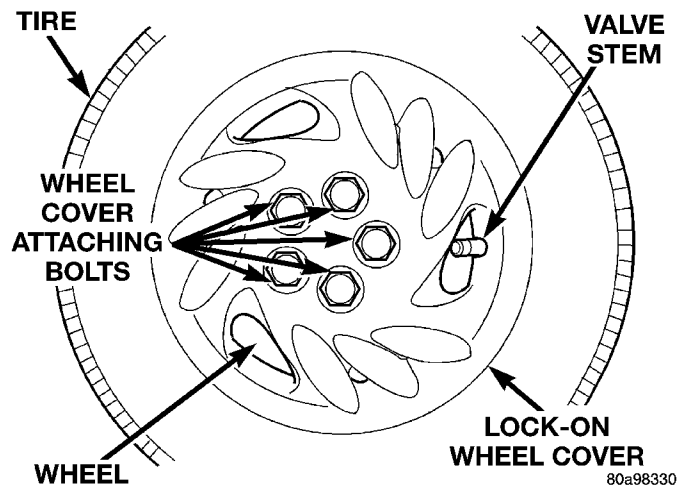

Fig. 12 Wheel Cover Locking Nuts
NOTE: When unthreading the wheel cover retaining nuts (Fig. 12) from the wheel nuts it is recommended that a hand wrench be used and not an impact wrench. Use of an impact wrench could result in damage to the lock-on wheel cover retaining nuts.
(1) Un-thread the 5 nuts (Fig. 12) attaching the wheel cover to the wheel nuts.
(3) Align the valve notch in the wheel cover with the valve stem on the wheel (Fig. 12). Align the wheel cover retaining nuts with the externally threaded wheel nuts.
(4) By hand, start to thread all 5 of the wheel cover retaining nuts onto the externally threaded wheel nuts.